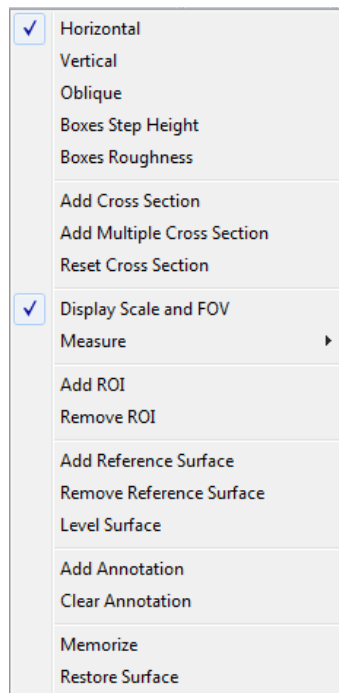

Fig. 58. 2D Composite View right-click menu
1. Right click within the *2D Composite View* pane to bring up the menu shown in Fig. 58.
2. In the right click menu shown in Fig. 58, select *Add Cross Section*. A new cross section appears a short distance from the first cross section. It will have the same length and orientation as the first one.
1. With the cursor in the *2D Composite View*, right click to bring up the menu shown in Fig. 58.